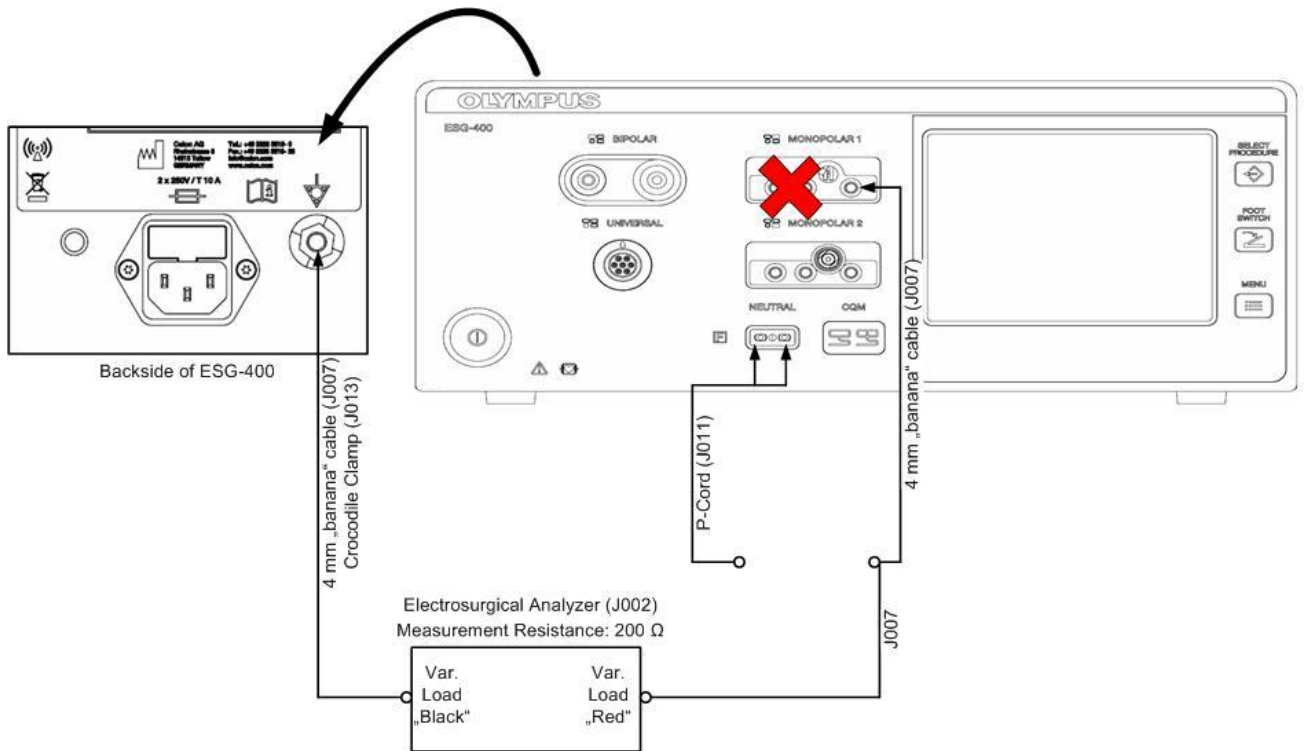
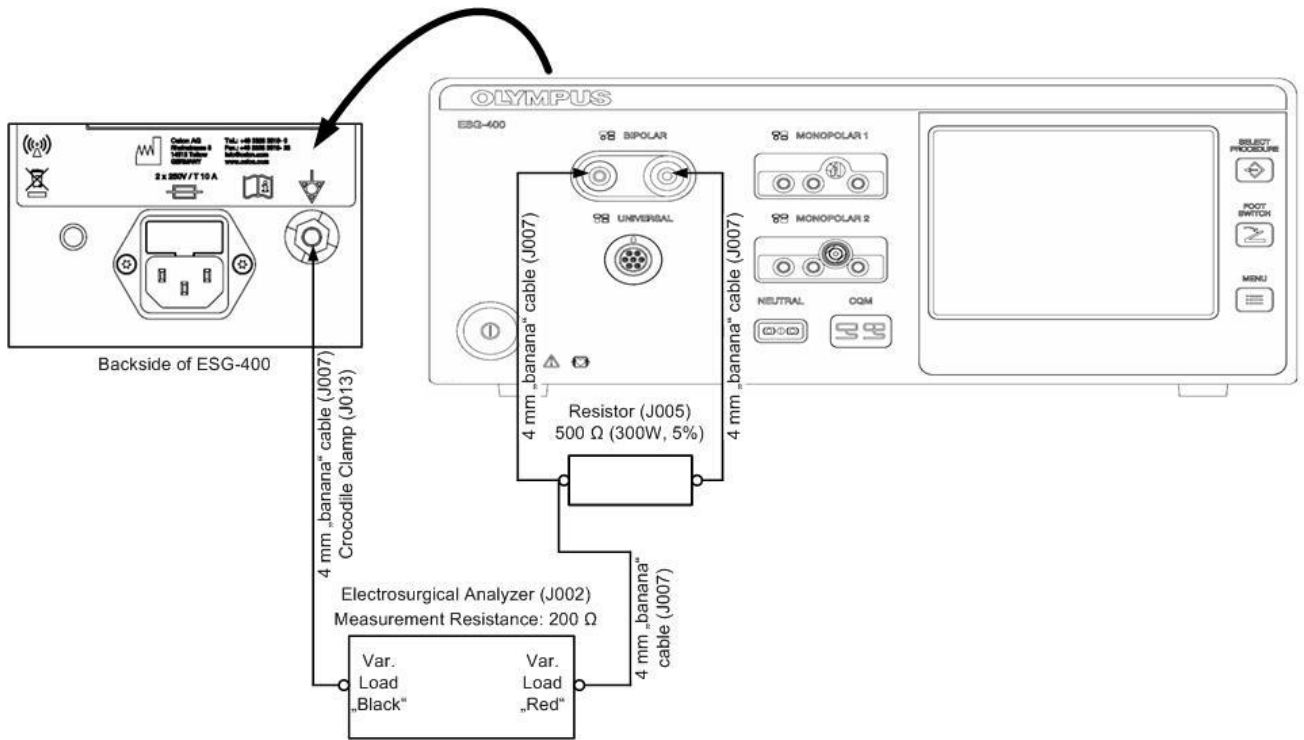

Fig. 5.2.6. Example for the unloaded measurement of the monopolar high frequency leakage current at the active pole
Fig. 5.2.7. Example for the loaded measurement of the bipolar high frequency leakage current at terminal 1
Fig. 5.2.6 and Fig. 5.2.7 are showing an example how to set up the test to measure the monopolar high frequency leakage current under unloaded condition. In this test the output is unloaded, the load resistance used in the test before is removed. The high frequency leakage current is floating from appropriate pole to the equipotential bonding port. It is measured via the electrosurgical analyzer via a measuring resistance of 200 Ω . Fig. 5.2.6 shows the measurement from the neutral pole; Fig. 5.2.7 shows the measurement from the active pole.
- 2) Set up the measurement according to Fig. 5.2.6 (Measuring of the high frequency leakage current under unloaded condition at the neutral pole.)
- 5) Set up the measurement according to Fig. 5.2.7 (Measuring of the high frequency leakage current under unloaded condition at the active pole.)